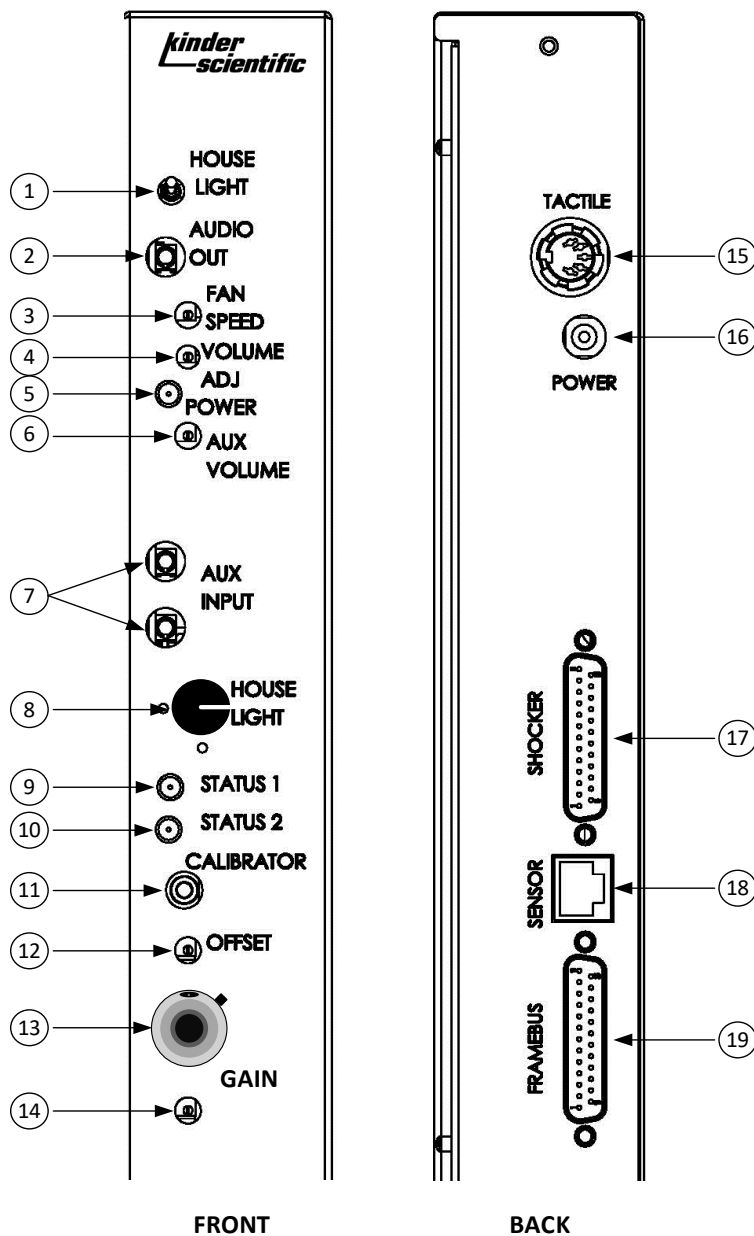

Figure 2 **StartleMonitor** Service Pack Controls, Indicators & Connectors on Front (left) and Back (right)
The SCM100 Service Pack (“Service Pack”) contains the controls and most of the electronics for the *StartleMonitor II* System and is located on the side of the *StartleMonitor II* cabinet. Figure 2 and Table 2 describe the Service Pack controls, indicators and connectors.
6. Connect a + 15 Vdc power supply to the connector located on the rear of each SM100 Service Pack (#16 in Figure 2) and to the power strip. Make sure these power supplies are connected and plugged into the power strip as well.